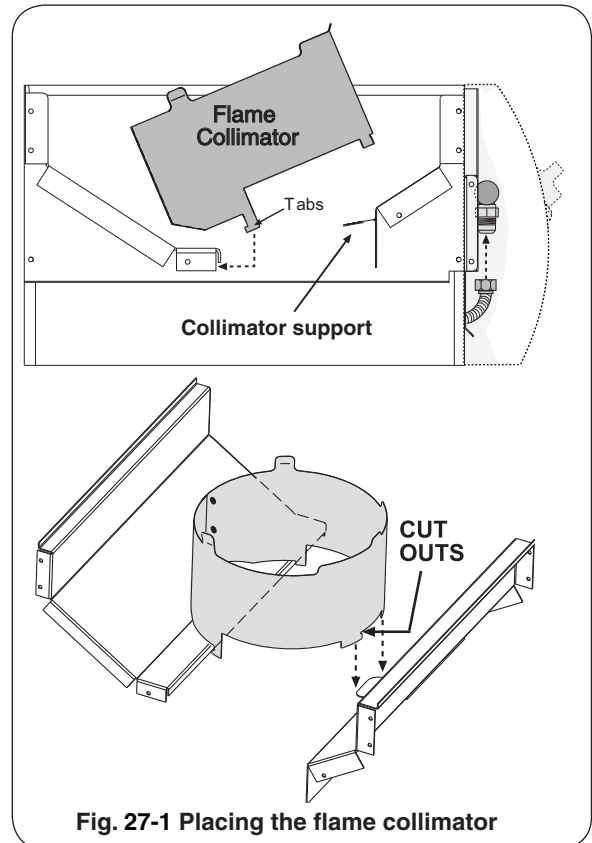

Fig. 27-1 Placing the flame collimator
1. Place the flame collimator over the burner with the tabs and cutouts resting on the inner shell, as shown in Fig. 27-1. Flex the front of the collimator towards the burner until the cutouts fit down around the collimator support. This will lock your collimator into place. The flame collimator acts as a barrier for windy conditions and creates higher BTU concentration to the support grid.
1. Remove the cover, cooking grid, and flame collimator. Compress the collimator front to back to release the front lock then rotate up as shown in Fig. 27-1.